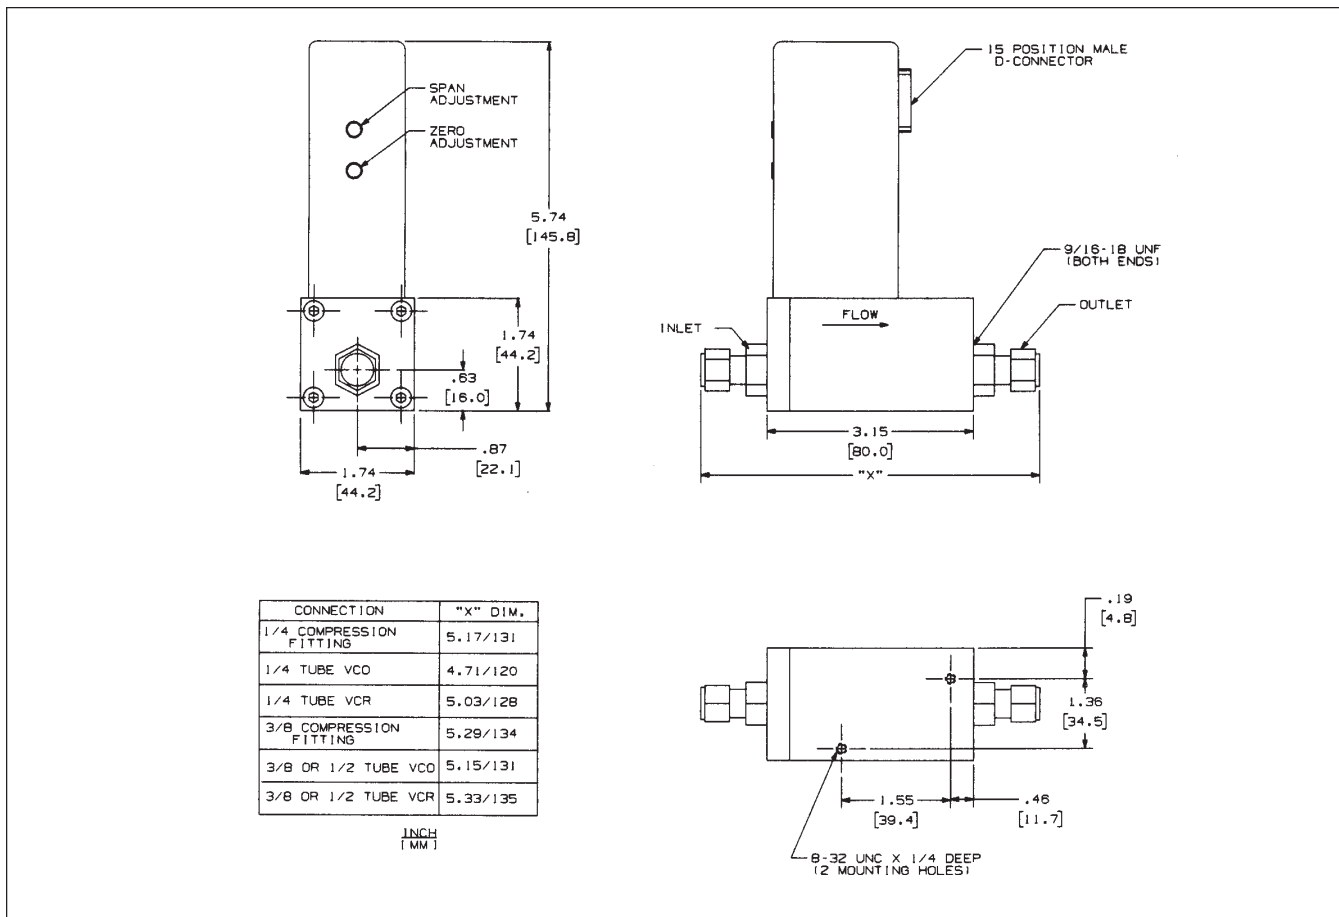

Figure 2-1 Model 5861E Dimensions
See Figure 2-1
**2-5 Installation (Refer to Figures 2-1 through 2-2)****⚠ CAUTION**